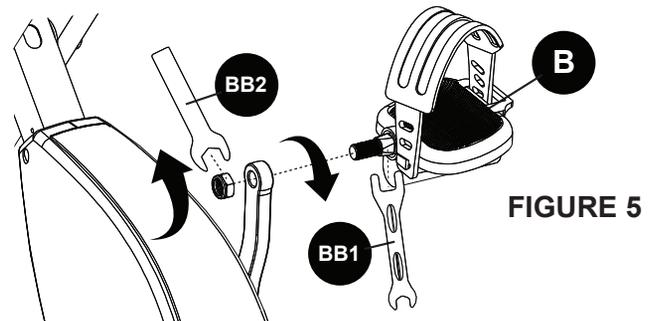

FIGURE 5
Step 5: The Right Pedal (B) (106R) is installed the same way using the supplied wrenches. (BB1) (BB2). **Figure 5**